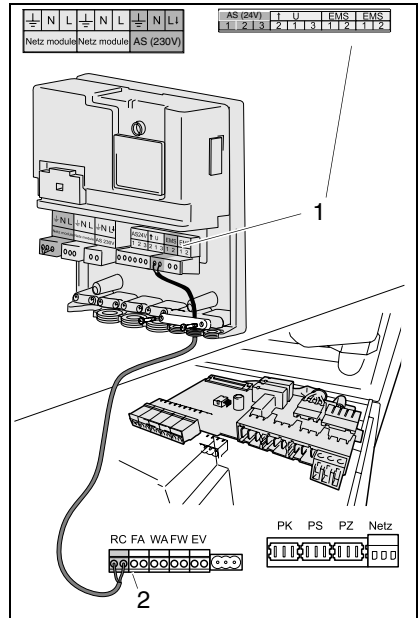

Fig. 1 Connection module to the boiler (example pictured: shows the Logamax plus GB142 with a wall-mounted module)
- Connect the module EM10 with a two-core cable leading from the EMS-connection (fig. 1, pos. 1) to the RC-connection on the external connection board of the boiler (fig. 1, pos. 2). The connection is polarity sensitive.